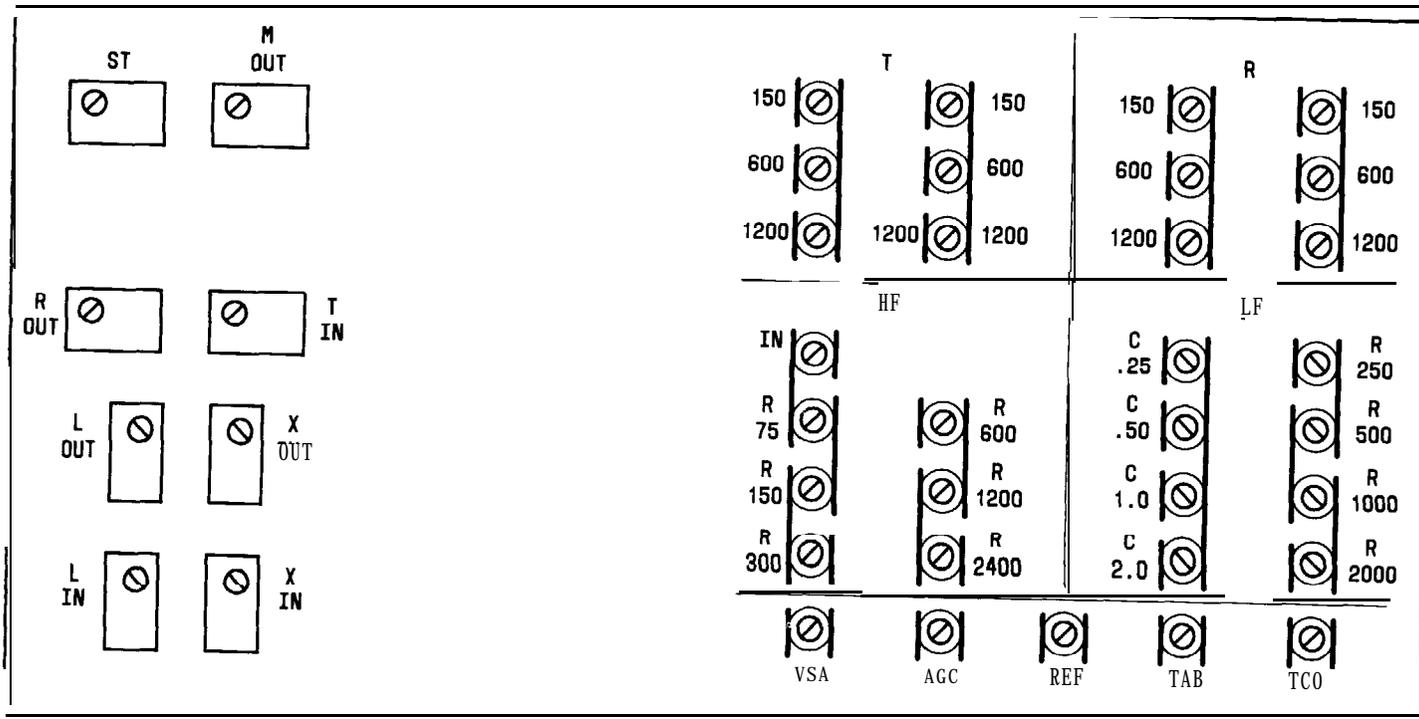

Fig. 6—Sketch of UTC Face Showing Relative Position of Controls and Designations
control designations located on the face of the UTC (Fig. 6).
5.01 All controls necessary to adjust and configure the UTC are located on the face of the unit. Fig. 6 is a sketch of the UTC face showing the potentiometers and screw-type switches.